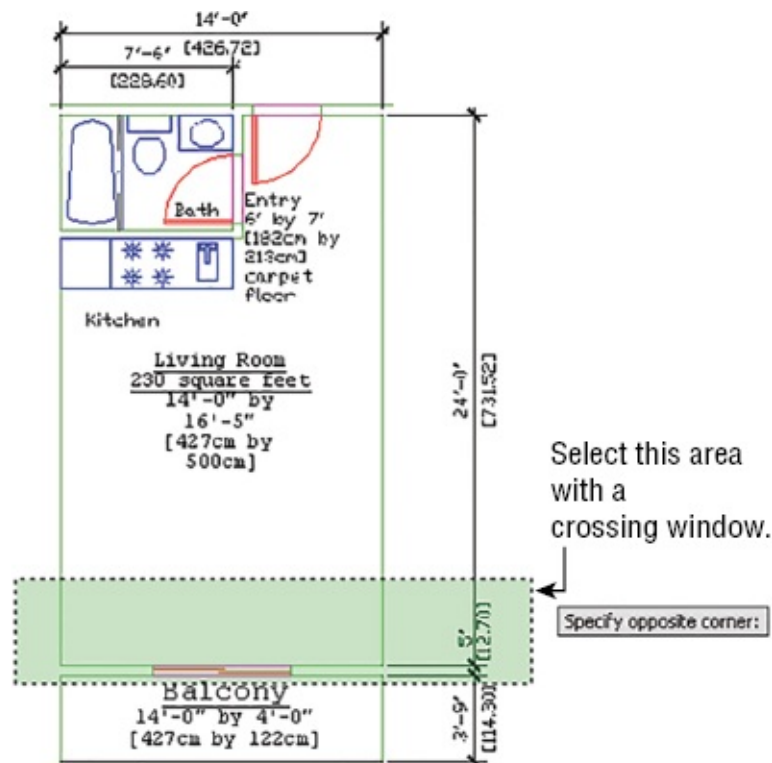

FIGURE 11.21 The Stretch crossing window
2. Pick a crossing window, as illustrated in Figure 11.21, and then press ↵ to confirm your selection.